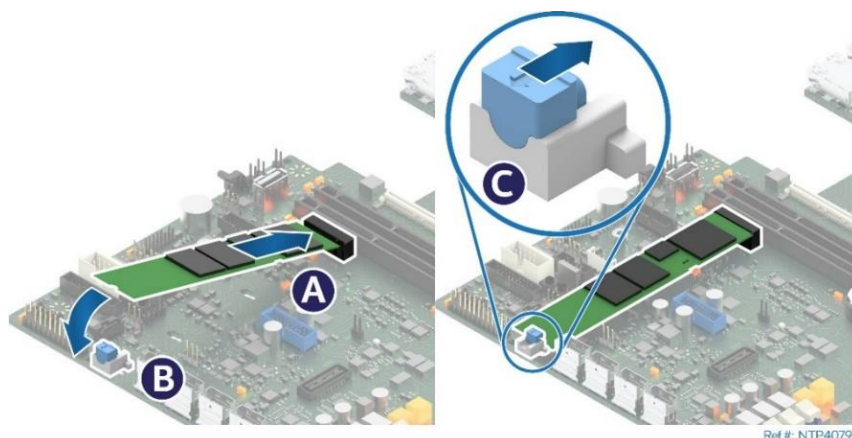

Figure 91. M.2 SSD Installation
7. Install the M.2 SSD to the server board (see Figure 91).